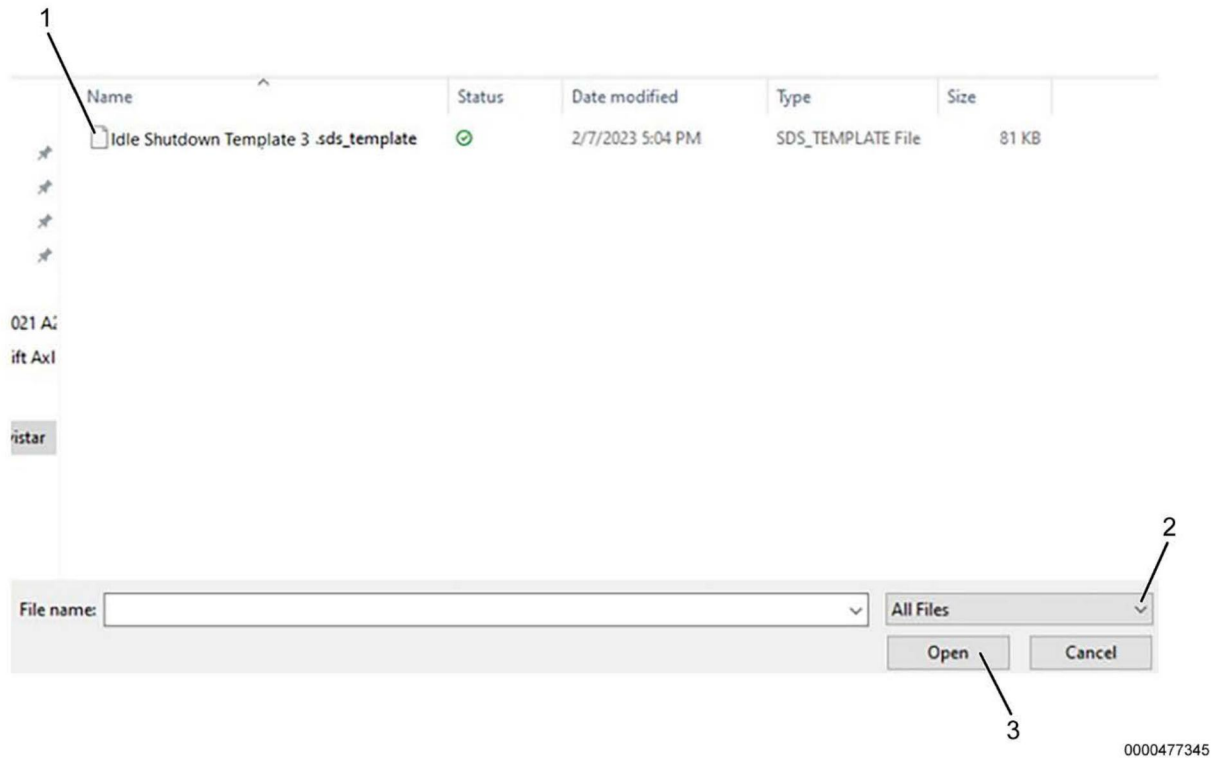

Figure 2. Load Template Screen
14. Ensure **ALL FILES** (Figure 2, Item 2) is selected in dropdown.
15. Select **Idle Shutdown Template 3** (Figure 2, Item 1).
16. Select **OPEN** button (Figure 2, Item 3).